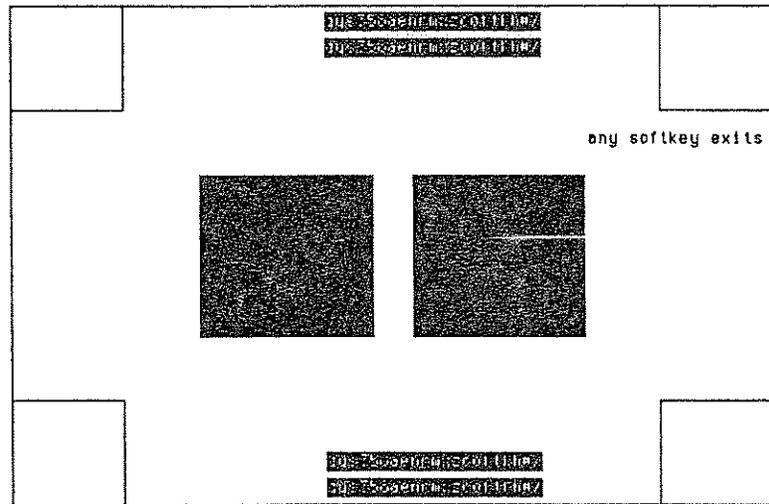

Figure 2-16. Display Selftest
5. Press the **start test** softkey. The display should be as shown in figure 2-16.
If the display is not as shown in figure 2-16, go to "To Troubleshoot the Display (CRT)." If the display is as shown in figure 2-16, continue with "To Use the Keyboard Selftest."